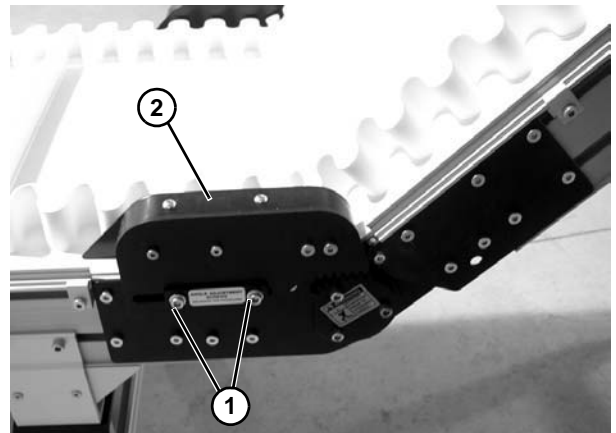

Figure 17
3. If equipped with a lower knuckle, remove screws (**Figure 17, item 1**) and remove lower knuckle return roller assembly (**Figure 17, item 2**) on both sides of conveyor, note the position of the meshing teeth.